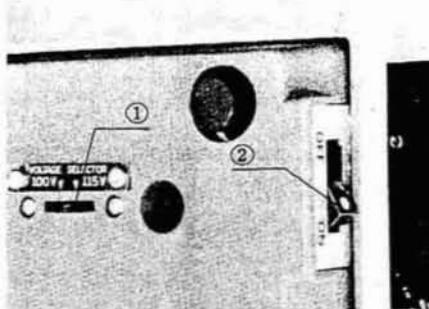

Fig. 3
- 1) Ascertain that the voltage selector switch ① is set to conform with the local mains voltage. (Fig. 3)
- 2) Place the sliding voltage control lever on the right side of the microscope base to a position closest to you (low voltage position). Switch on the light source (main switch ②). (Fig. 3)